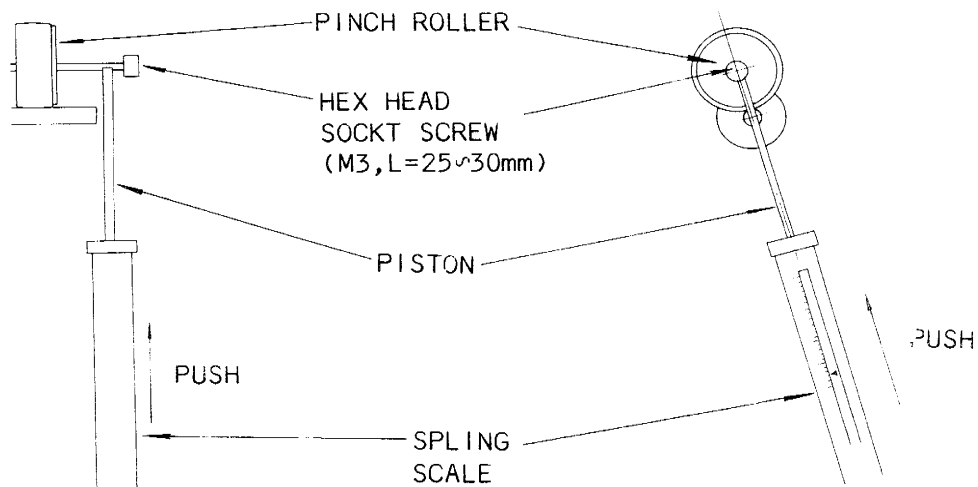

Figure 6-4 Pinch Roller Pressure Measurement
4. Measure pinch roller pressure by using the Push function (piston part, not hook part) of the spring scale. Put the end of piston part of a 3 kg (0 ~ 10 pounds) spring scale on M3 hex socket head screws from the direction of the capstan shaft. (shown in Figure 6-4) At this time do not touch the capstan shaft with piston part.